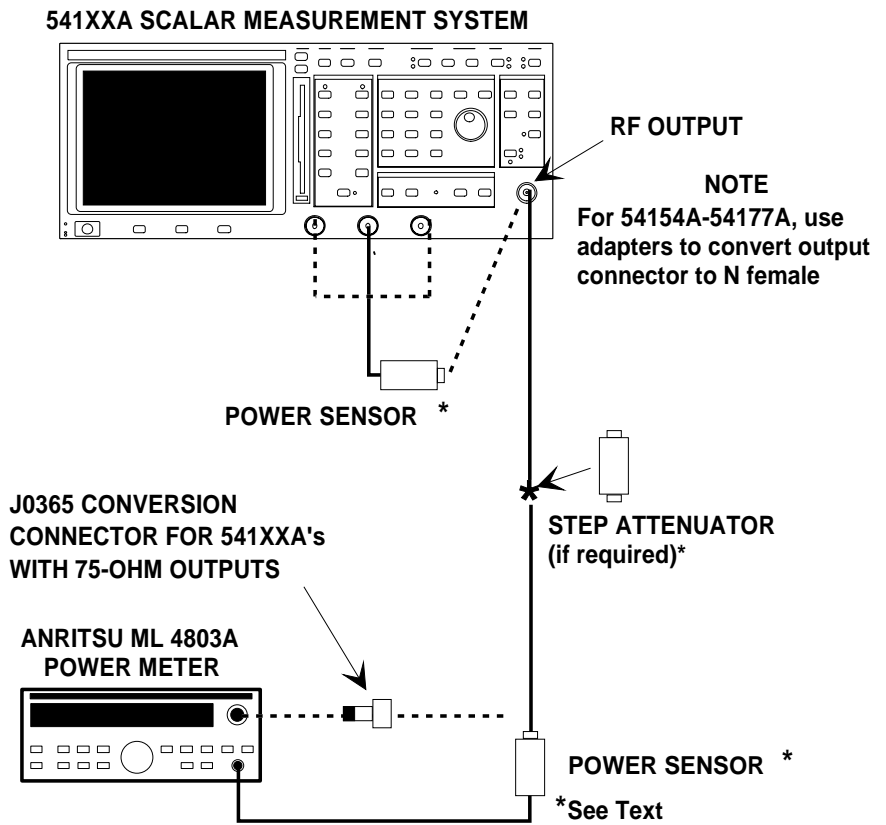

Figure 5-5. *Signal Channel Verification, RF Test Setup*
- For units equipped with a 75Ω signal source output, connect the MA4603A power sensor (in conjunction with the J0365 Conversion Connector) to the power meter (see Figure 5-5).
Step 2. Set up the equipment as shown in Figure 5-5, and turn the equipment on.